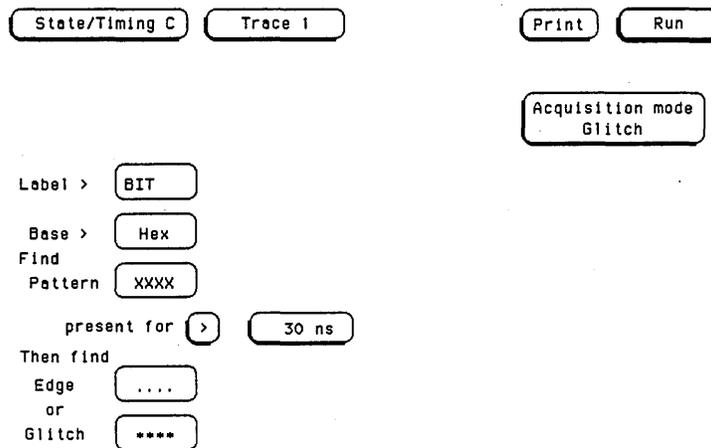

Figure 3-41. Trace Screen
4. Configure the Trace screen for **Glitch Acquisition mode** as in figure 3-41. Follow steps a through d if unfamiliar with menus.